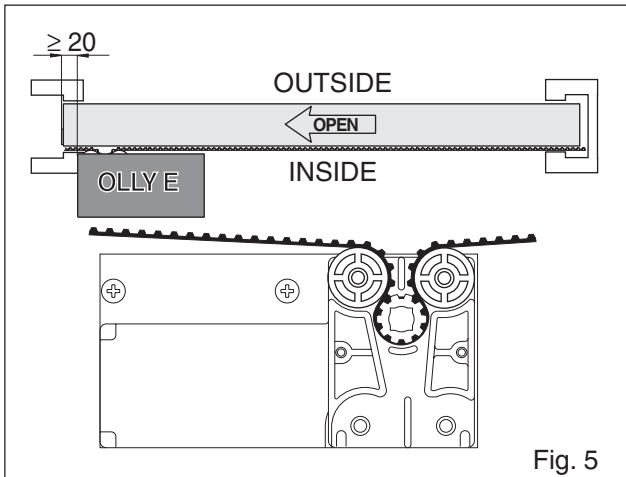
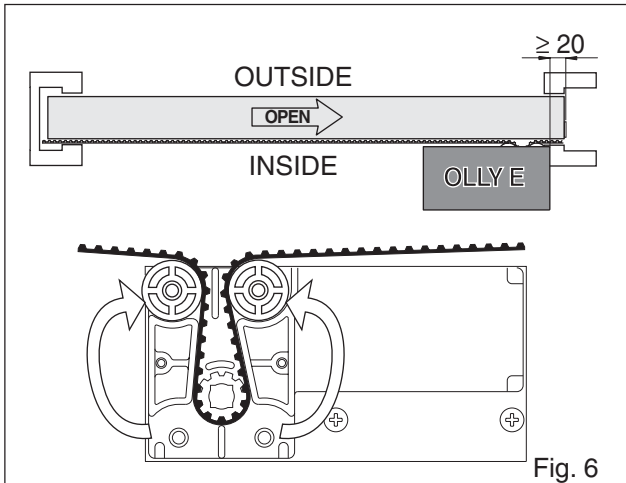
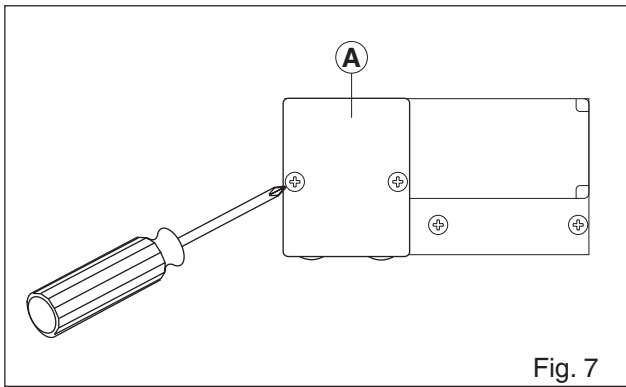

Fig. 5
Fig. 6
Fig. 7
- 3.1 Verify the installation situation, left opening (fig.5), right opening (fig.6).
- 3.2 (Fig.7) Remove the plate [A] and insert the belt as shown in fig. 5 or 6. Close the plate again [A].